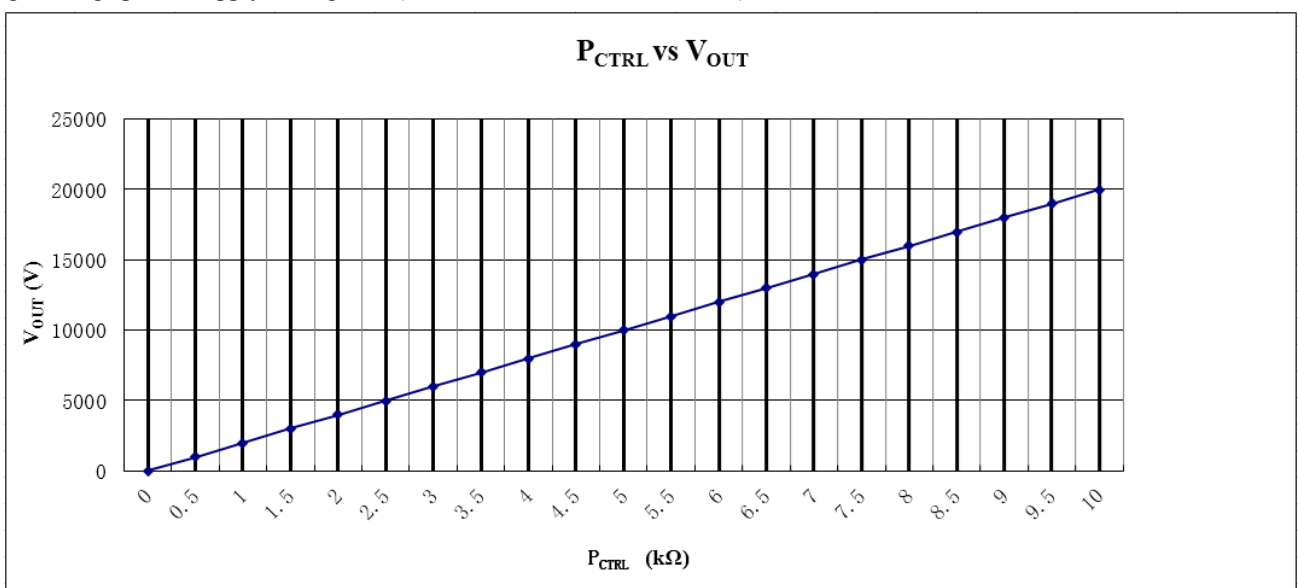

Figure 4. P\_CTRL vs. V\_OUT
5. HV adjustment: 10-turn potentiometer for adjusting output voltage. Rotate it clockwise to increase the output voltage, and the potentiometer resistance = the corresponding scale  $\times$  10 $\Omega$ . For example, as Figure 4 shows, when the scale is 10, and the frame above the scale shows 1 (1k $\Omega$ ), then the resistance = 10 $\times$ 10 $\Omega$ +1k $\Omega$ =1.1k $\Omega$ , and the like.